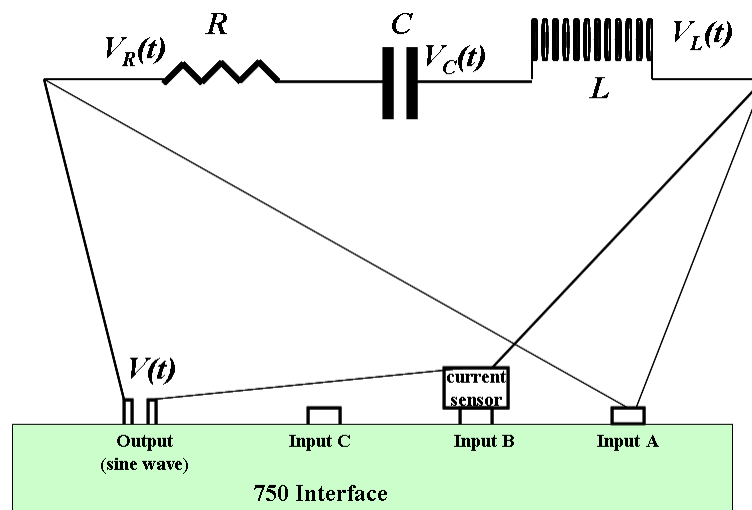

Figure 3. The LRC circuit.
1. Set up the LRC circuit as shown in Figure 3.